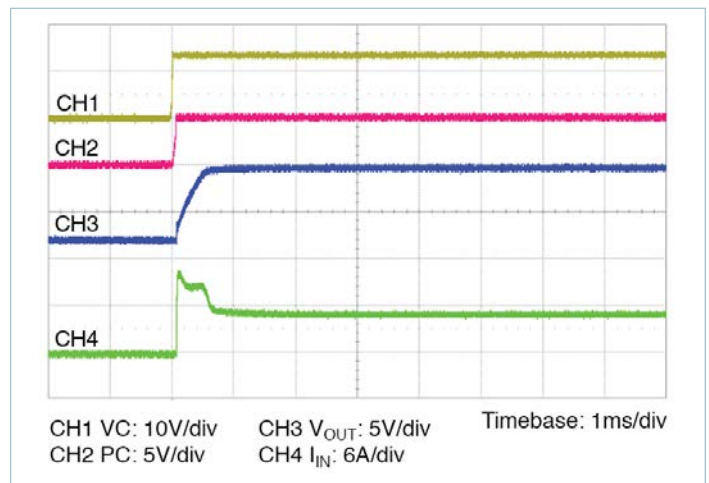

Figure 14 — Start up from application of VC;  $V_{IN}$  pre-applied  $C_{OUT} = 2300\mu\text{F}$
- **Stand-alone operation (VC applied after  $V_{IN}$ ):** In this case the VTM output will begin to rise upon the application of the VC voltage (See Figure 14). The Adaptive Soft-Start Circuit may vary the output rate of rise in order to limit the inrush current to its maximum level. When starting into high capacitance or a short, the output current will be limited for a maximum of 1200 $\mu$ s. After this period, the Adaptive Soft-Start Circuit will time out and the VTM module may shut down. No restart will be attempted until VC is re-applied or PC is toggled. The maximum output capacitance is limited to 2300 $\mu$ F in this mode of operation to ensure a successful start.